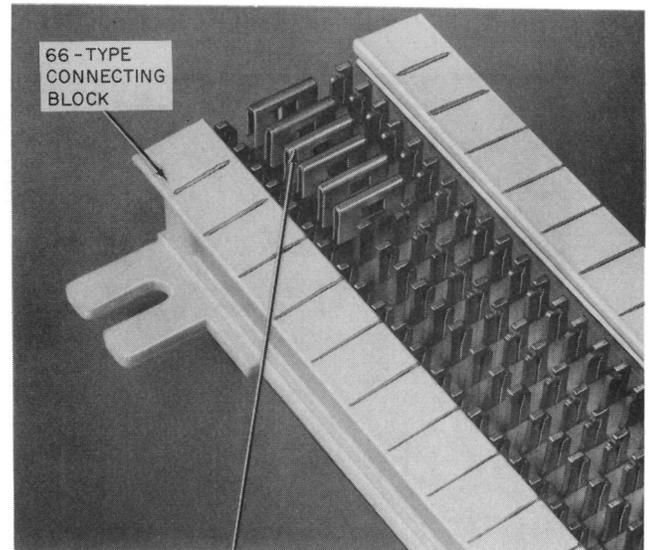

Fig. 17—C Bridging Clip, Installation Detail
5.01 The B (MD) and C bridging clips are spring clips used to electrically interconnect two adjacent terminals in the same row of 66-type connecting blocks, thereby increasing the multiplying capacity of the block (Fig. 17). The B bridging clip (MD) is made of stainless steel while the C clip is made of solder plated phosphor bronze. The clips are interchangeable and can be intermixed on the same block.